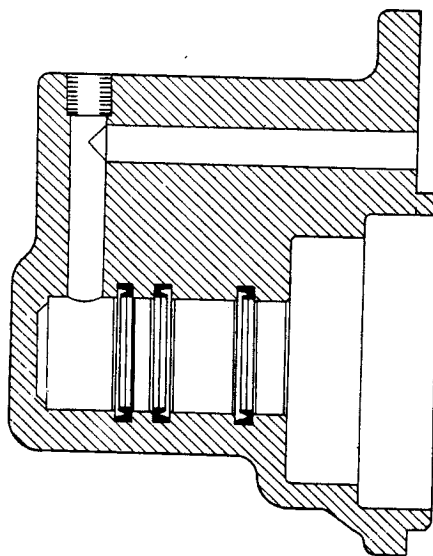

Fig. 46 -- Seals Installed in Oil Collector
- f. Refer to Fig. 46, install seals in both oil collectors; lubricate seals freely. Install oil collectors (with shim packs previously determined) on front cover.